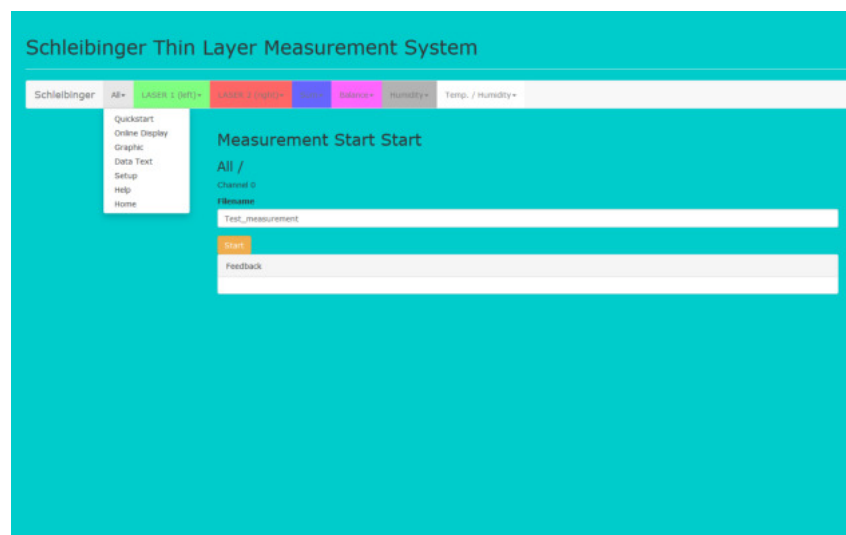

Figure 24: Quickstart for TLMS
- Select **Quickstart** (Fig. 24).